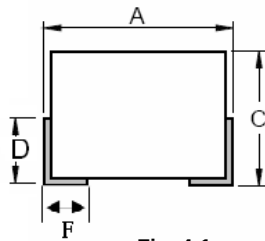

Fig. 4-1
Dimensions and recommended PCB pattern for reflow soldering: See **Fig.4-1**, **Fig.4-2** and **Table 4-1**.
2) Dimensions: See **Fig.4-1**